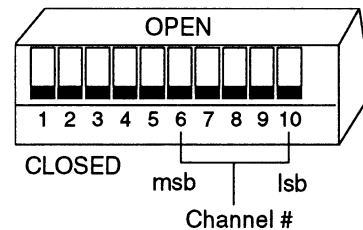

Figure 9. DSM DIP Switch SW-402
- Step 3. Set SW-402 for the binary equivalent found in Table 3. Place the switch up to represent a logic 0 (OPEN) and down to represent a logic 1 (CLOSED) as shown in Figure 9.